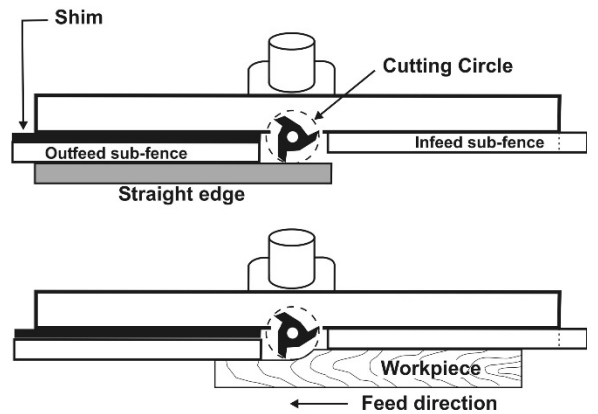

Figure 8-4
- When the operation removes the entire edge of the work, for example in jointing or making a full bead, the shaped edge will not be supported by the outfeed sub-fence when both fences are in line. In this case, place a shim behind the outfeed sub-fence that is equal thickness to the depth of cut. To determine size of shim, position a straight edge against router bit and bring outfeed sub-fence against it. See Figure 8-4.